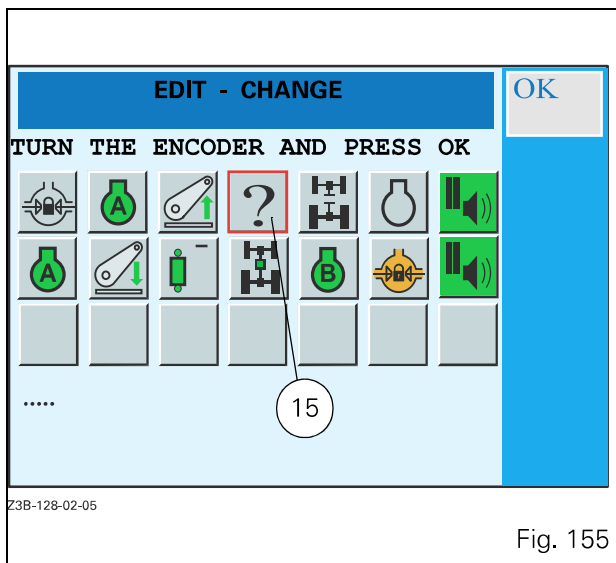

Fig. 155
- Validate either by pressing the encoder, or by pressing key  $\llcorner_1$ . The icon to modify is replaced by a question mark (ref. 15 Fig. 155).